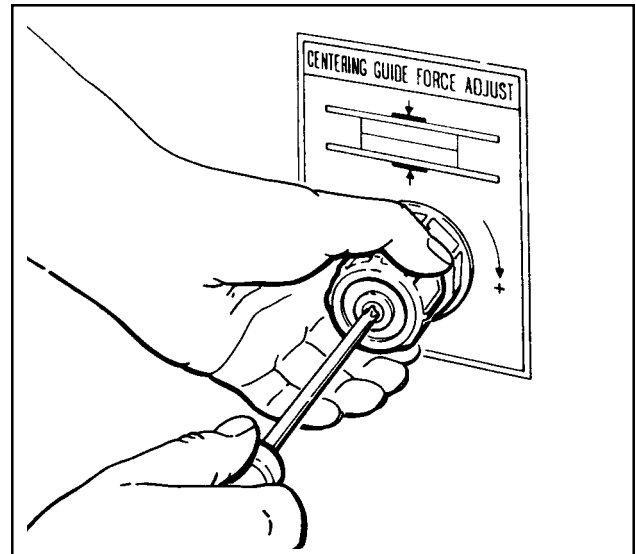

Figure 3-4 – Air Regulator, Centering Guides
⑥ Air Pressure Regulator, Box Centering Guides Figure 3-4